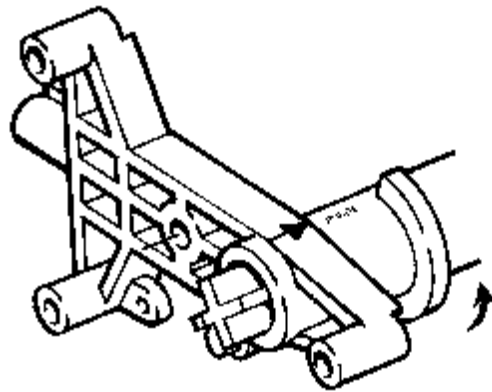

Figure 5
6. Push in RED KNOB and index pilot valve to PURGE. Allow water to flow to drain until clear (see Figure 5).